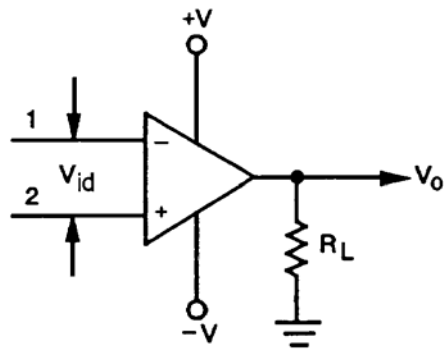

Figure Q-33. Circuit for Measuring Open Loop Characteristics
(2) Note Figure Q-33 shows the circuit for measuring open loop characteristics.